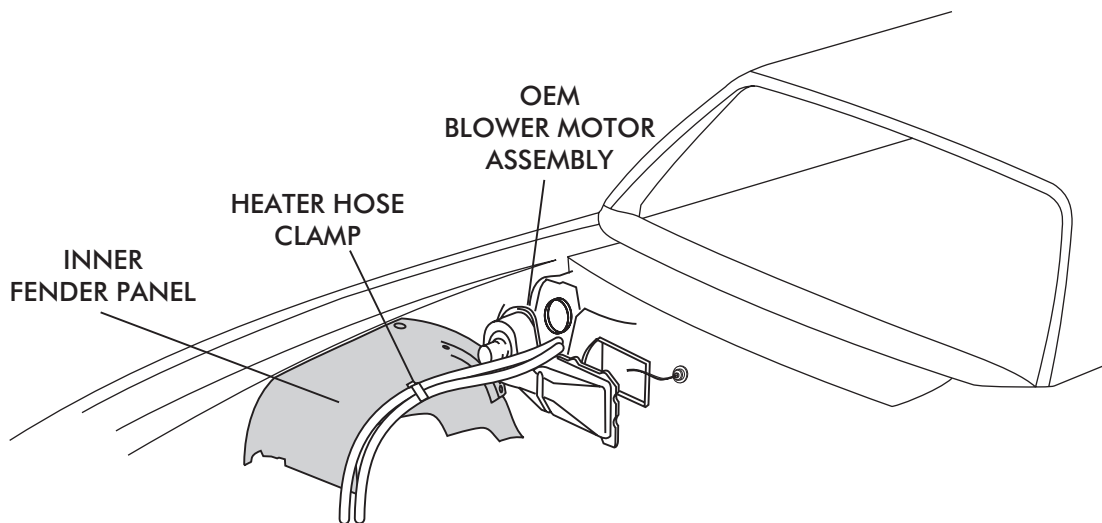

FIGURE 1
- OEM HEATER HOSES (DISCARD). SEE FIGURE 1.
- OEM HEATER WIRING/VACUUM HARNESS MOLDED GROMMET. SEE FIGURE 1.